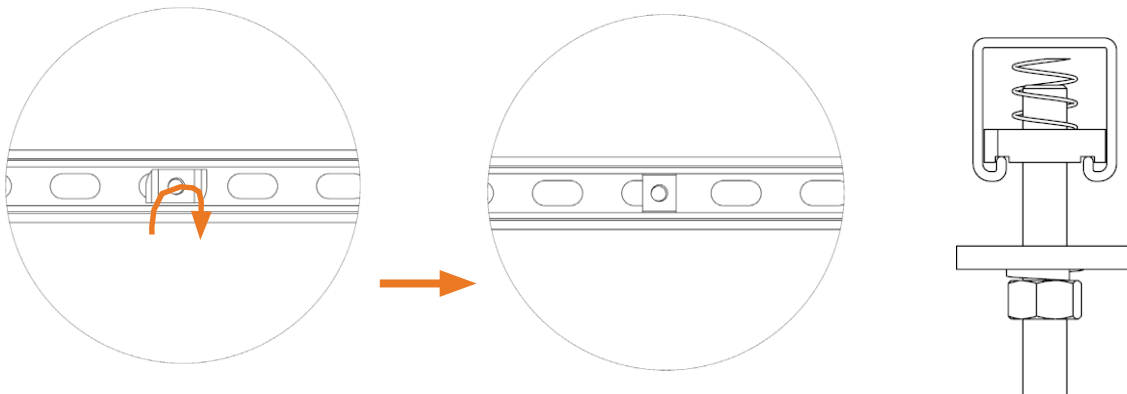

Figure 256: **Strut Channel Nut Seated Properly in Strut Channel**
- Make sure the strut channel nut is seated properly in the 1 5/8" slotted (1/2") strut channel (Figure 256).